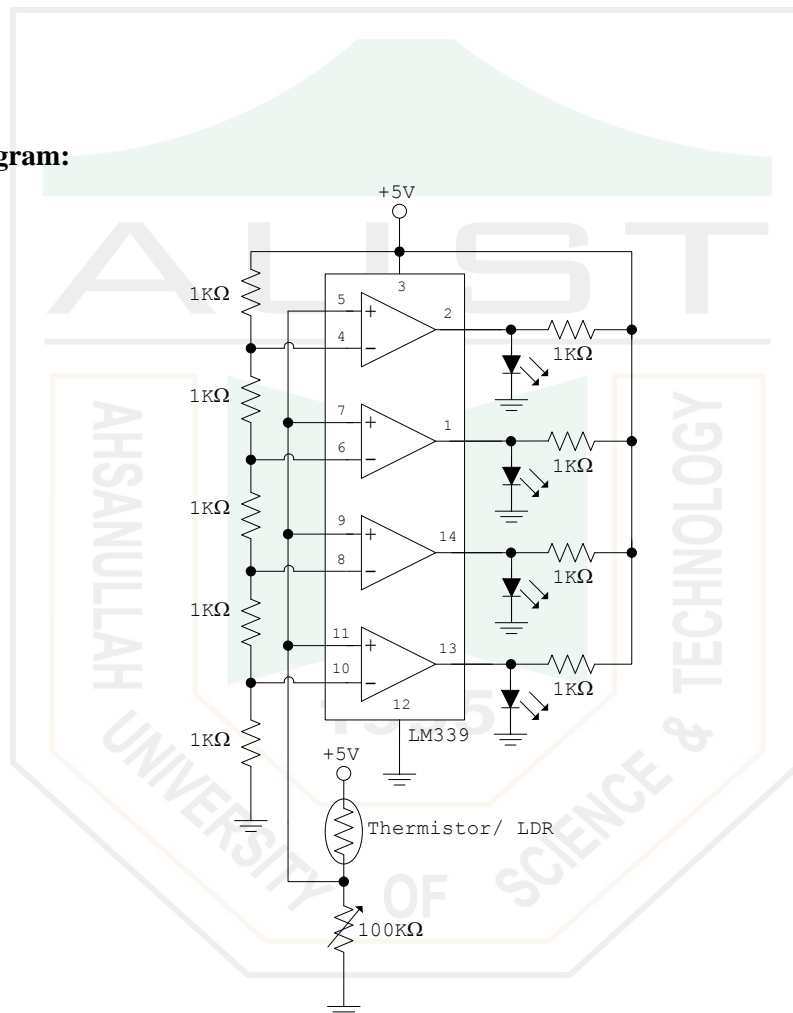

Figure3.
3. Construct the circuit as shown in figure3 with the thermistor.
1. Explain the operation of the circuit shown in figure3.